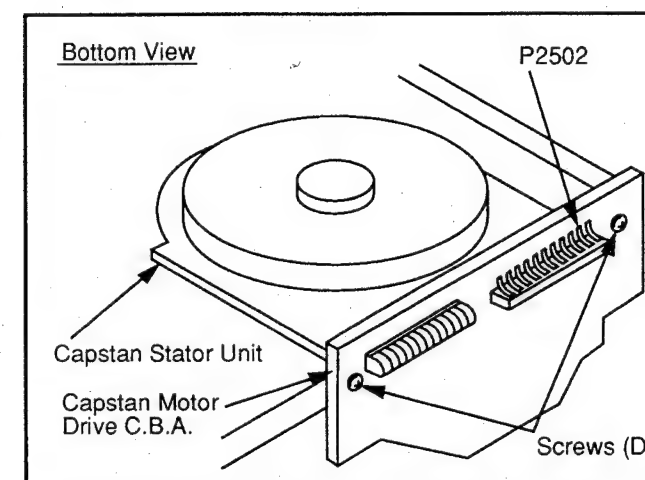

Fig. M20
4. Carefully unsolder P2502 on the Capstan Motor Drive C.B.A. Then remove the Capstan Motor Drive C.B.A. by removing 2 Screws (D) shown in Fig. M20.
5. Remove 2 Screws (C) and then lift out the Capstan Stator Unit.
6. Install the new Capstan Stator Unit and then tighten 2 Screws (C).